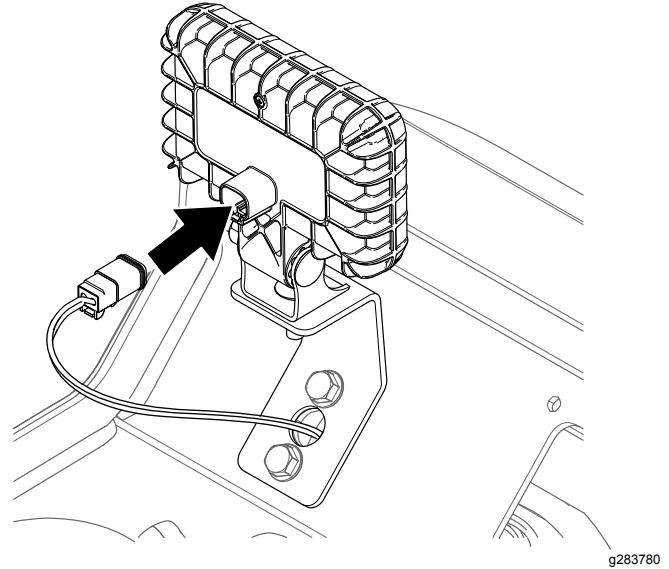

Figure 11
- 9. Using the console plate opening to access the wire harness, route the left light connector through the hole in the left light bracket and connect it to the left light (Figure 11).